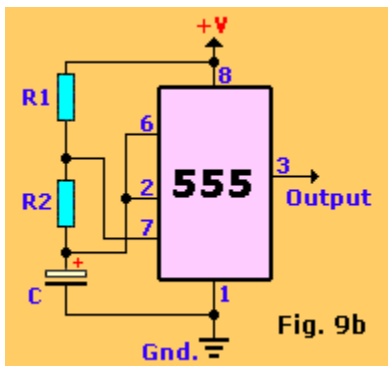

Fig. 9b
A stable operation: Figure 9b shows the 555 connected as an astable multivibrator. Both the trigger and threshold inputs (pins 2 and 6) to the two comparators are connected together and to the external capacitor. The capacitor charges toward the supply voltage through the two resistors, R1 and R2. The discharge pin (7) connected to the internal transistor is connected to the junction of those two resistors.
The 555, when connected as shown in Fig. 9b, can produce duty-cycles in the range of approximately 55 to 95%. A duty-cycle of 80% means that the output pulse is on or high for 80% of the total period. The duty-cycle can be adjusted by varying the values of R1 and R2.